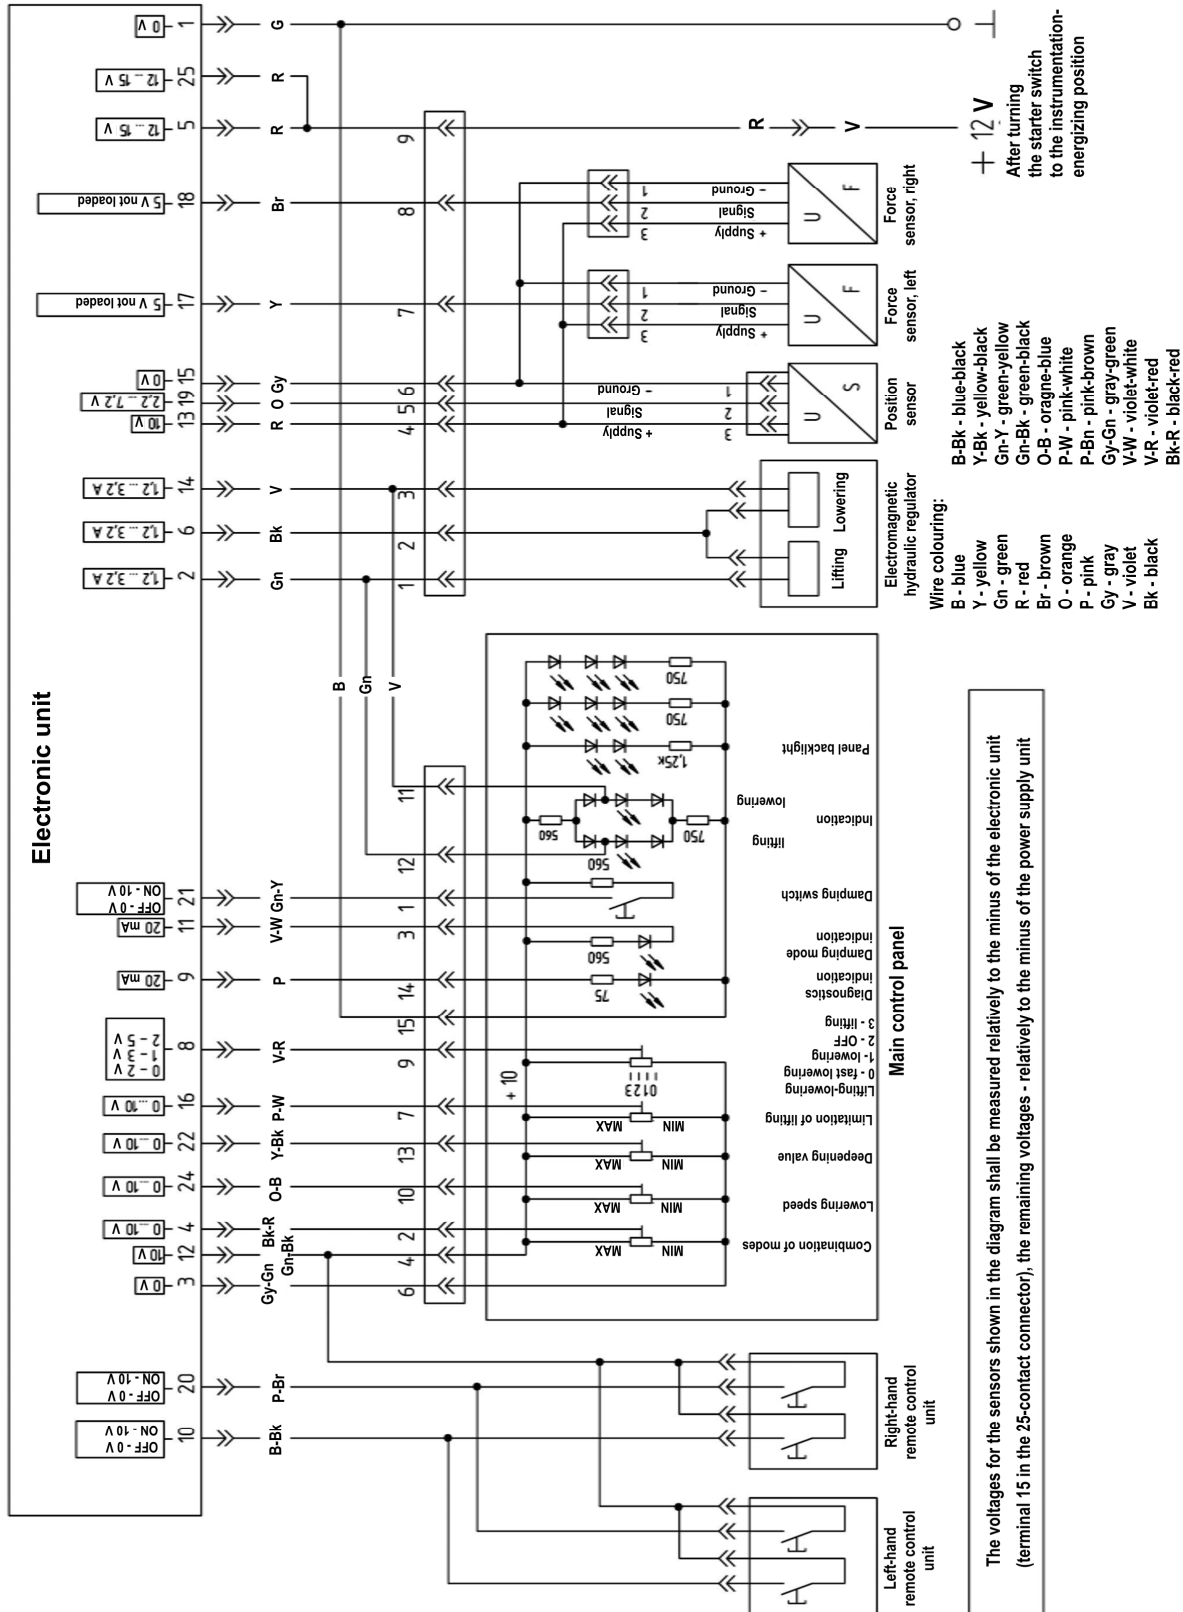

Fig.D-37. Electric connection diagram of the RHL control system
The EHR5-OC electro-hydraulic regulator (Fig.-34) is controlled by two proportional magnets with the use of the electronic RHL control system (see Fig. D-37)
buttons. Short circuit between the wires or locking of one of the remote control buttons. In this case, the hitch linkage begins move up- or downwards immediately after starting the engine (Fig. D-37)	for mechanical damage. Disconnect each button in turn until the defect is eliminated. When disconnecting the buttons, the engine shall be stopped. If the defect does not disappear when the buttons are disconnected, it is necessary to disconnect the connector from the electronic unit and check the terminals (10) and (12), (20) and (12) for short circuit by means of a tester.